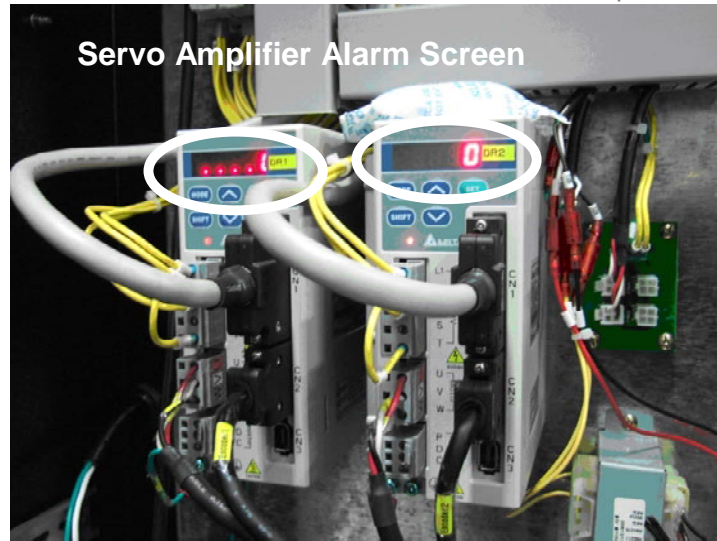

Fig. 6-8 Motor Servo Amplifier
Step 5 : Please see the alarm code on the servo amplifier screen (Fig. 6-8), then follow the below list to eliminate the error.